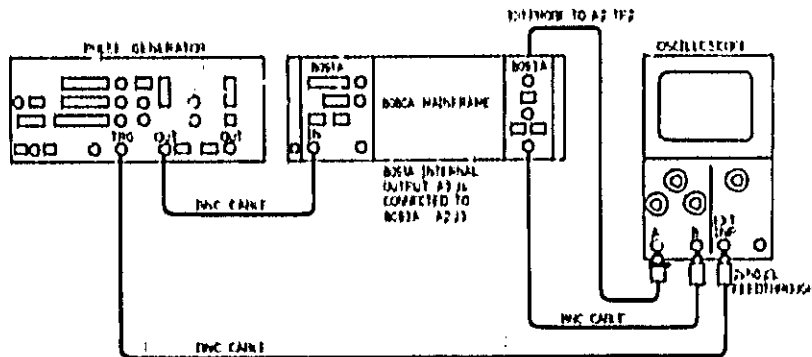

Figure 5-3.
1. Connect equipment as shown in Figure 5-3.